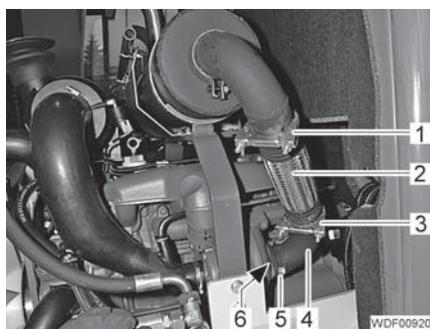
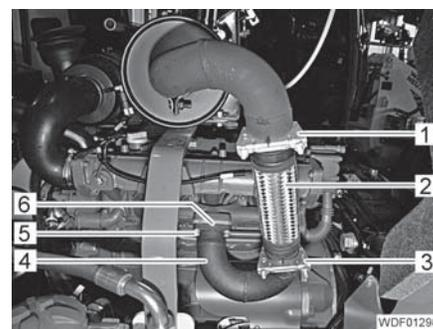

Fig. 99 Exhaust (with turbocharger)
Fig. 100 Exhaust (without turbocharger)
- Unscrew the 3 screws (Fig. 99,5 or Fig. 100,5).
- Release the clamp (Fig. 99,3 or Fig. 100,3).
- Remove the flue (Fig. 99,4 or Fig. 100,4) with seal (Fig. 99,6) or with seals and intermediate washer (Fig. 100,6).
- Release the clamp (Fig. 99,1 or Fig. 100,1).
- Remove the flex-pipe (Fig. 99,2 or Fig. 100,2) by pulling it downwards.
- Tighten the clamp (Fig. 99,1 or Fig. 100,1).
- Position the flue (Fig. 99,4 or Fig. 100,4) with seal (Fig. 99,6) or with seals and intermediate washer (Fig. 100,6).
- Insert and tighten 3 screws (Fig. 99,5 or Fig. 100,5) with spring lock washers and disks.
- Tighten the clamp (Fig. 99,3 or Fig. 100,3).